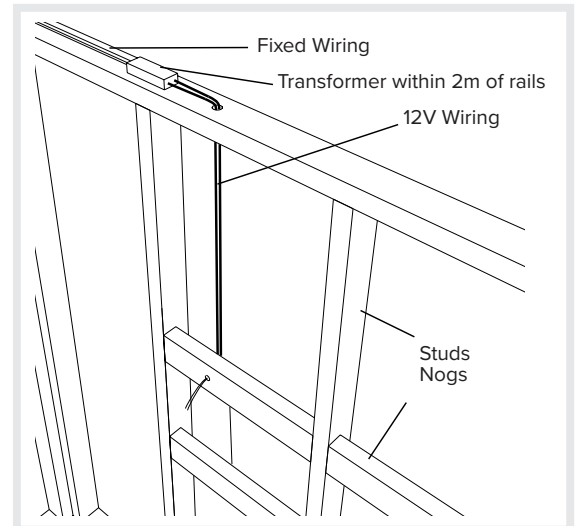

Figure 1.0
Only one end of the pole should be connected to the power source. The other end will need to have the wires terminated as there are 2 separate looms in the rail. See Figure 1.0 and 4b
The towel rail mounting spigot must be fastened to a solid fixing point, eg. timber or brickwork. The mounting face of the towel pole **must be fitted against a solid surface** eg. tiles (not suitable directly onto gib or plasterboard). Recommended location is 600mm above floor, 300mm from any permanent fixing and 250mm between poles. See Figure 1.0
- Typical wiring for timber framed walls is shown in *Figure 1.0*
- Refer to figure 1.0. Run your wires through the wall as required. Make sure your wires are preinstalled outside your nog where you intend your rail to be installed.
- Wire requires threading through the 9mm spigot hole and leaving till after gib/tile for installation of rail (see *figure 1.0*) and connecting to the 12V transformer.